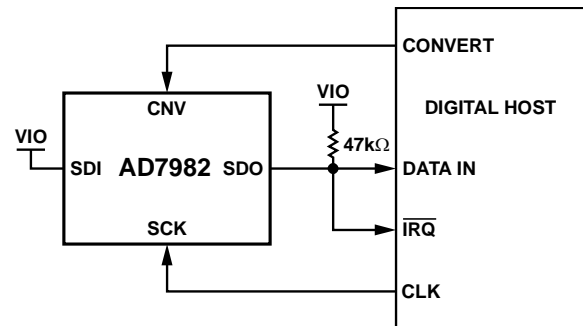
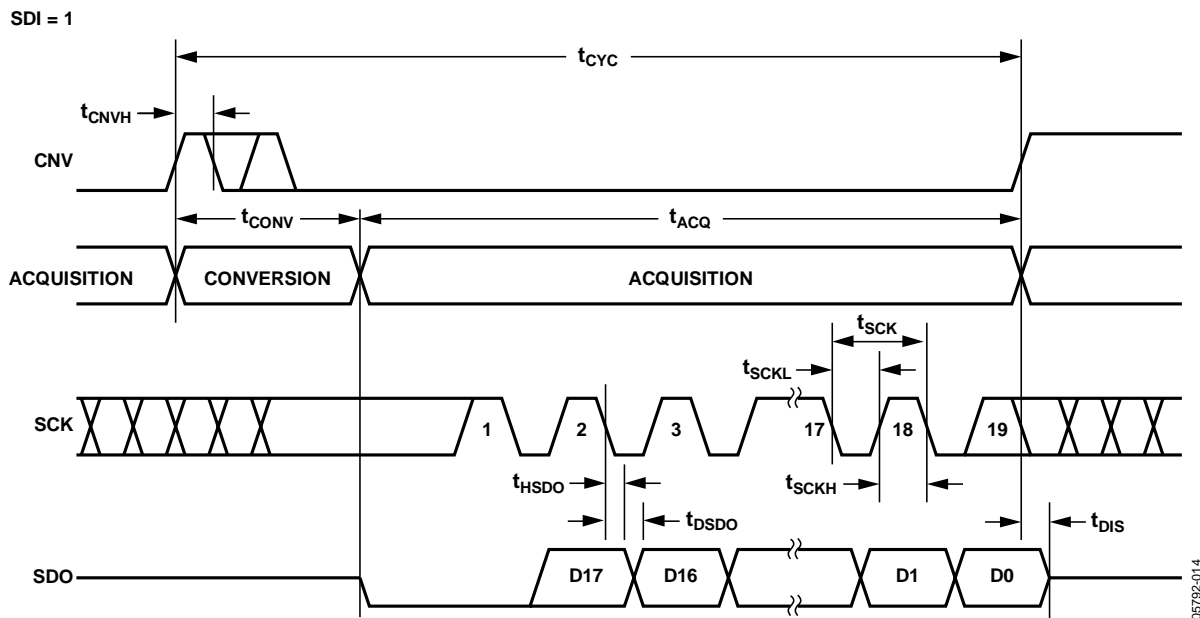
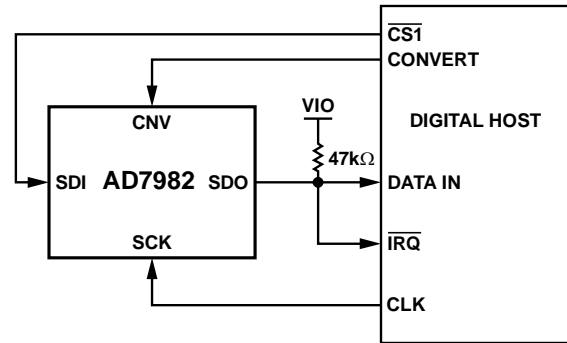
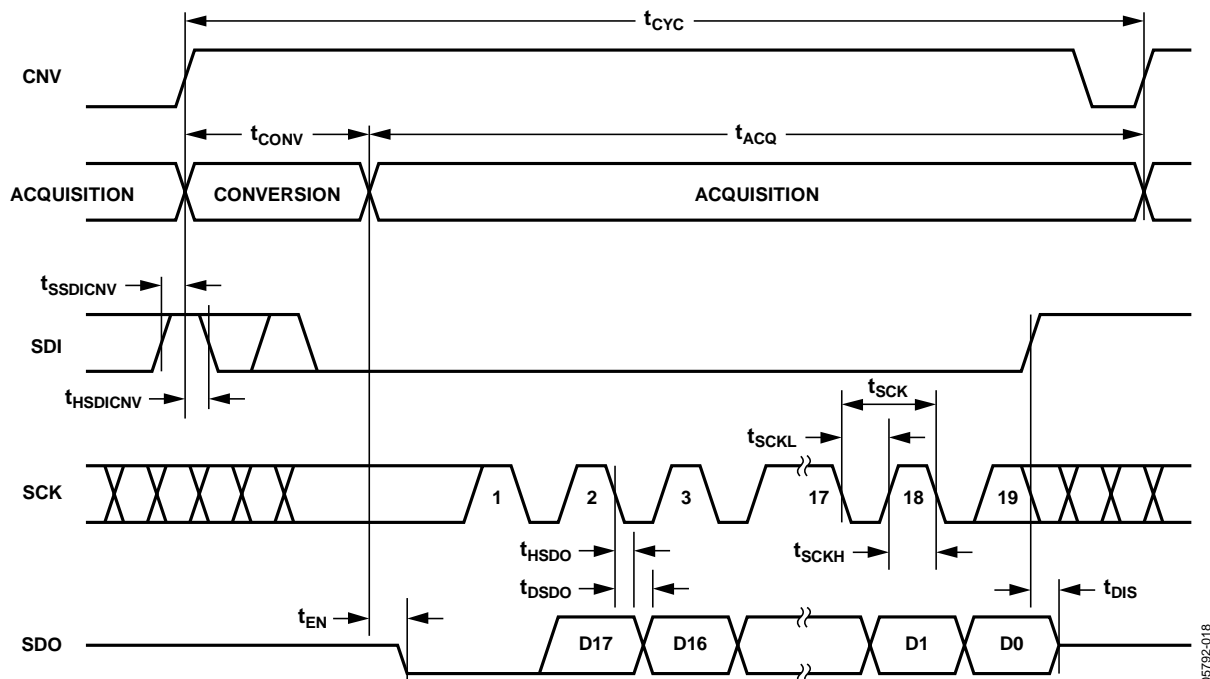

Figure 18. $\overline{\text{CS}}$ Mode 3-Wire with BUSY Indicator Connection Diagram (SDI High)
Figure 19. $\overline{\text{CS}}$ Mode 3-Wire with BUSY Indicator Serial Interface Timing (SDI High)
Figure 22. $\overline{\text{CS}}$ Mode 4-Wire with BUSY Indicator Connection Diagram
Figure 23. $\overline{\text{CS}}$ Mode 4-Wire with BUSY Indicator Serial Interface Timing
- In the $\overline{\text{CS}}$ mode, if CNV or SDI is low when the ADC conversion ends (Figure 19 and Figure 23).
The connection diagram is shown in Figure 18 and the corresponding timing is given in Figure 19.
The connection diagram is shown in Figure 22 and the corresponding timing is given in Figure 23.